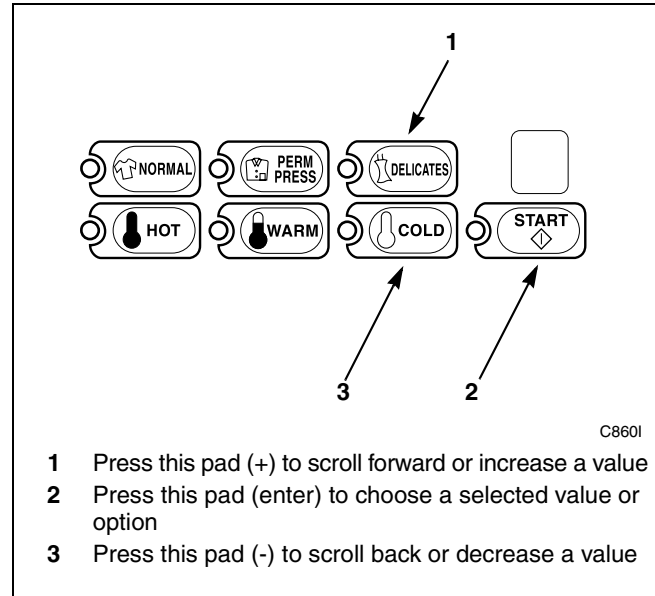

Figure 149
5. Press the DELICATES (+) or the COLD (-) keypad to increase or decrease the current number of minutes displayed in the VFD to the desired number of minutes. Refer to *Figure 149*.
**NOTE: The Permanent Press Rinse Agitate Time can be set from zero (0) to 15 minutes.**